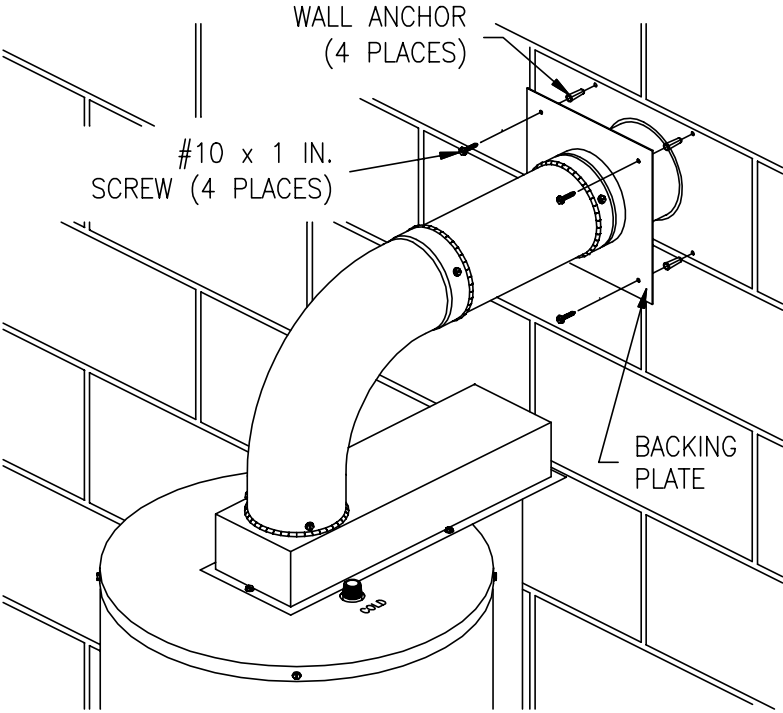

Figure 16.
- 12. Mark the mounting screw hole locations for the backing plate. Rotate the backing plate in order to gain access to the markings. With a 3/16 (4.75 mm) inch diameter drill bit (not supplied), drill holes for the supplied wall anchors. Install the wall anchors and secure the backing plate to the wall with four (4) #10 x 1 inch screws (supplied) (See Figure 16). Note: Certain construction of walls may require the use of a different type of anchoring means than supplied.